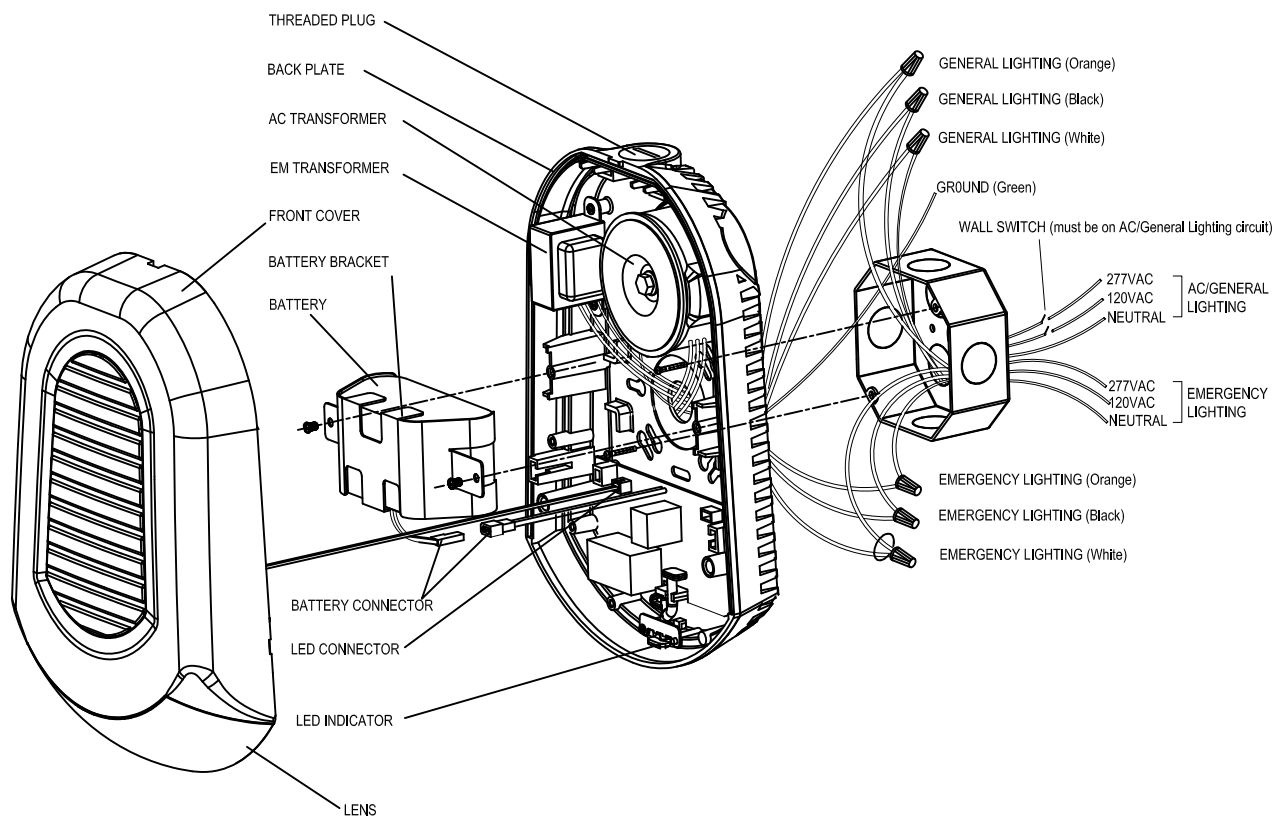

Fig.3
4. Mount back plate to junction box with screw provided #8-32X1 (see Fig.3).
5. Install battery assembly on back plate, connect battery connector, confirm LED connector from top cover is connected (see Fig.3).